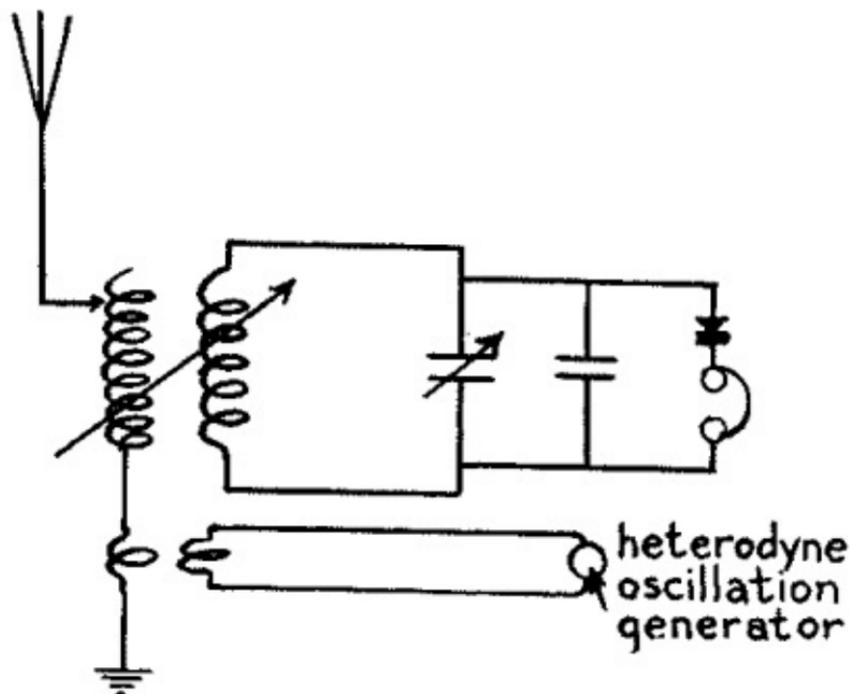

FIG. 74.—Separate Heterodyne Oscillator.
*The Separate Heterodyne Receiving Set.*--The better way, however, is to use a separate vacuum tube for setting up the heterodyne oscillations. The latter then act on the oscillations that are produced by the incoming waves and which energize the grid of the detector tube. Note that the vacuum tube used for producing the heterodyne oscillations is a *generator* of electric oscillations; the latter are impressed on the detector circuits through the variable coupling, the secondary of which is in series with the aerial wire as shown in *Fig. 74*. The way in which the tube acts as a generator of oscillations will be told in Chapter XVIII.